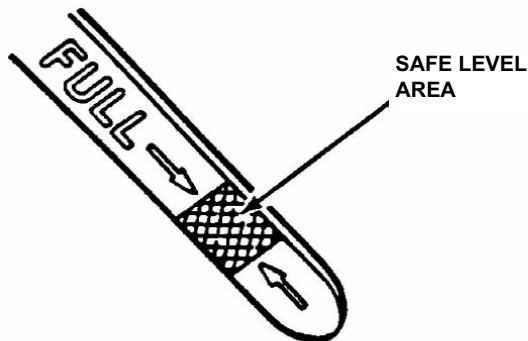

FIGURE 3.1
**3.1.3.** Check engine oil and add oil as needed to bring level up to the FULL mark. Refer to engine owner's manual for oil specifications. See Figure 3.1.